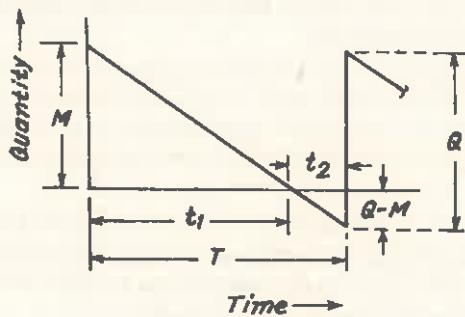

Fig. 24.4. EOQ Model with stockouts allowed.
- Fig 24.4 shows time pattern of inventory levels when stockouts are incurred.